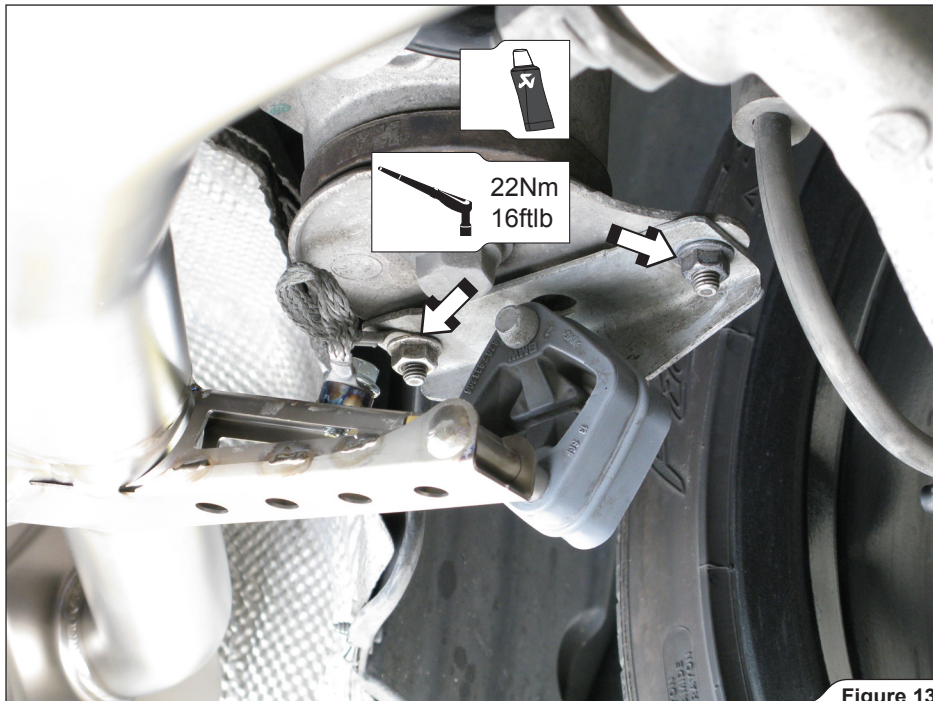

Figure 13
6. **For Slip-On and Evolution:** slide both Akrapovič mufflers onto the middle pipes and tighten the stock rubber brackets to a specified torque (**Figure 13, 14**).
! **WARNING:** attach the stock ground wires on both sides of the vehicle, as shown in Figure 13!